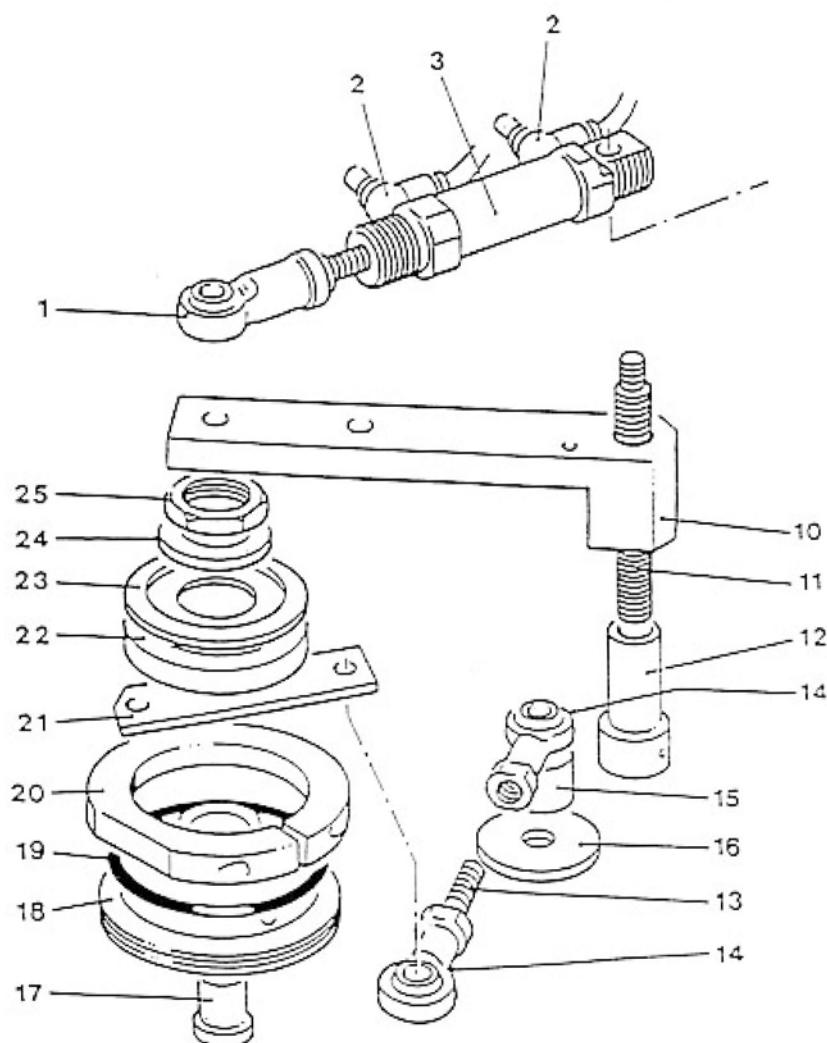

Figure 4.1
b) Drive Wheel Assembly (Figure 4.1)
c) Drive Wheel Cylinder (Figure 4.1)